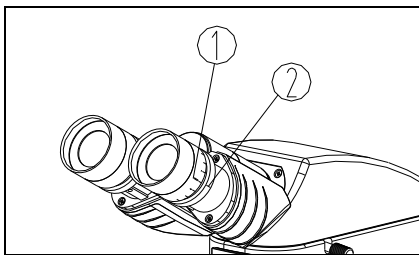

Fig. 13
Align the scale “0” of diopter adjustment ring① with the scale②, and then focus to get a clear image. Then observe through the other eyepiece, rotate the diopter adjustment ring until it is clear. (see Fig.13).